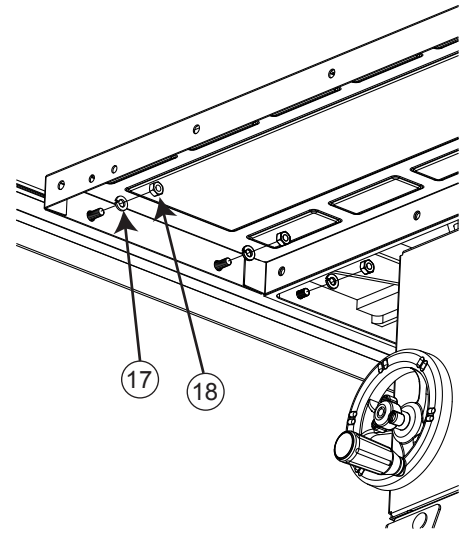

Fig. 4
- Place an M8 lock washer and thread an M8 hex nut on the back of each of the eight square head screws (see Fig. 4), but do not fully tighten the nuts at this time. Position the front rail so that the left end of the rail extends about $\frac{3}{4}$ inch past the edge of the left extension wing.